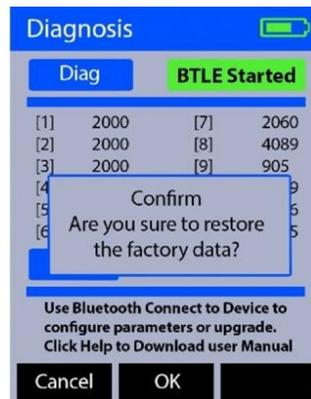

Figure 10.
5. Press **Factory** (**<**). The display updates as shown in Figure 10.